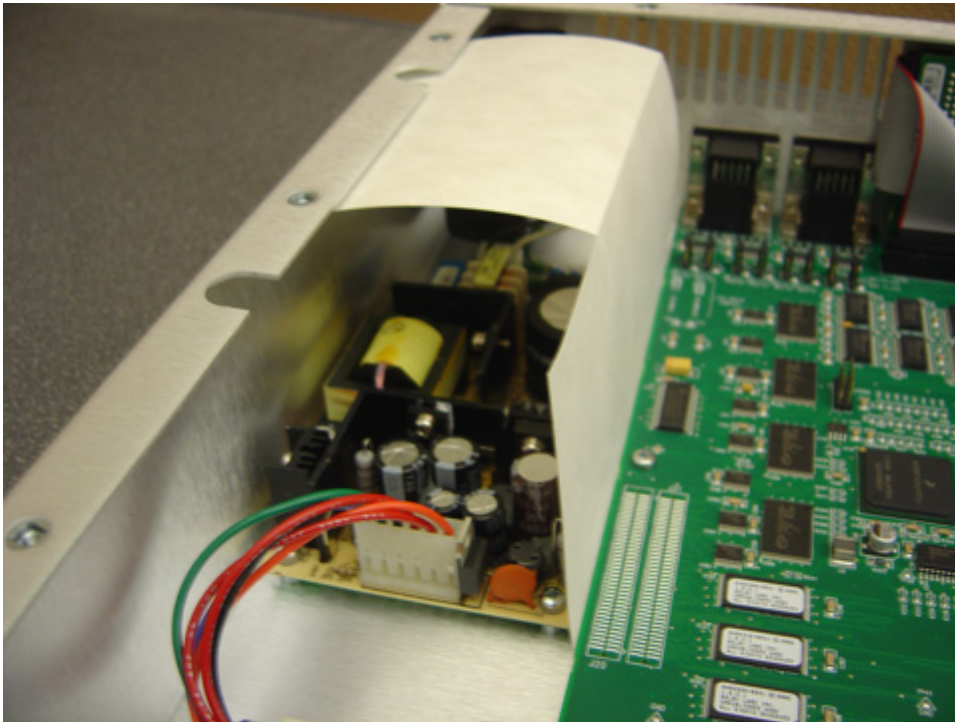

Figure 2 Power Supply with Top Panel Removed
3. Remove top cover. Figure 2 shows the power supply after the top panel is removed.